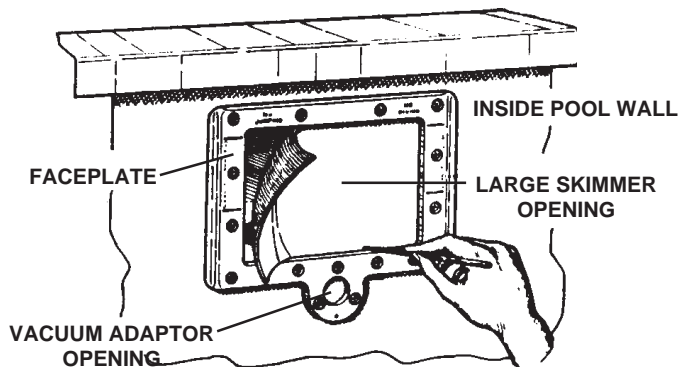

FIG. 4
Use the faceplate (20) as a guide to trim only the liner, being careful not to cut the gasket, in the large skimmer opening, and the vacuum adaptor opening. (Fig 4)
7. Attach vacuum port cover (15) and retainer (16) to faceplate using screw (17).